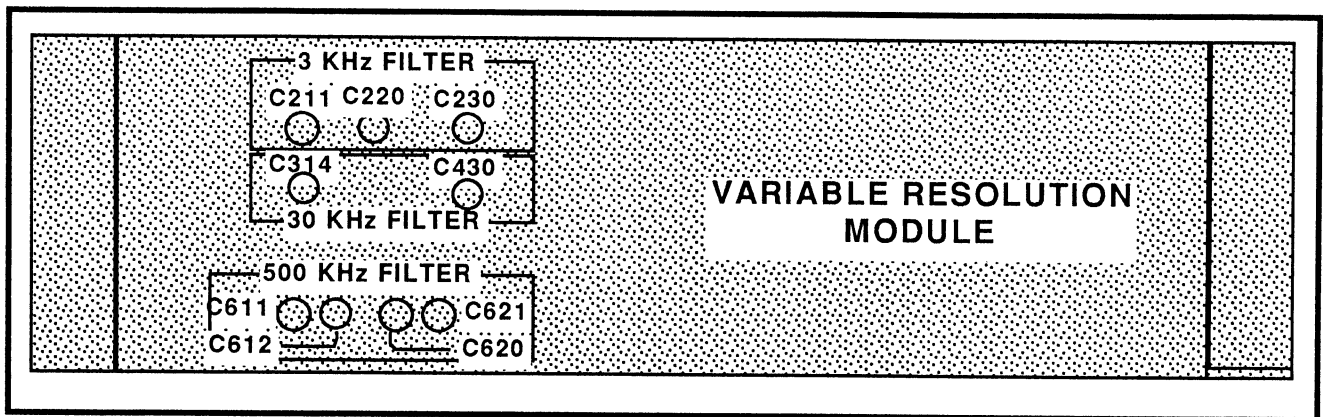

Figure 4-9. Variable Resolution module adjustment locations.
(1) Press RESOLUTION BW↔ for 500 kHz resolution bandwidth, and set FREQ SPAN/DIV to 500 kHz.
(2) Adjust C610, C611, C620, and C621 on the VR Filter Select board (Figure 4-9) for highest amplitude, best filter shape, and centering at center screen.